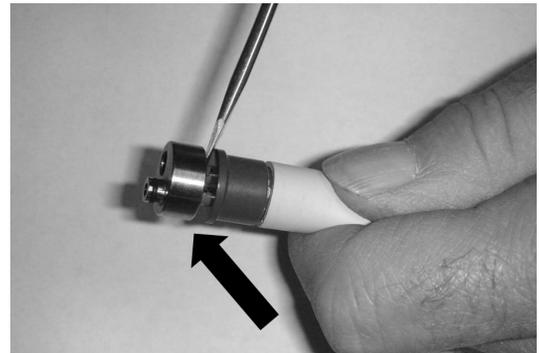

Fig. 3
Step 5 - Separate the gray tubing retainer from the connector to expose the tubing. Use a small flathead screwdriver if needed. (Fig. 3)